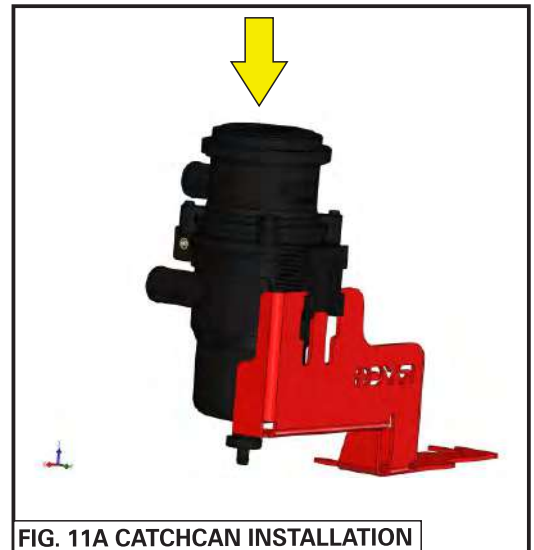

FIG. 11A CATCHCAN INSTALLATION
4. Slot RCC351 into FB9805CC bracket as shown in FIG. 11A. The ports of the RCC351 should be facing toward the front of the vehicle.